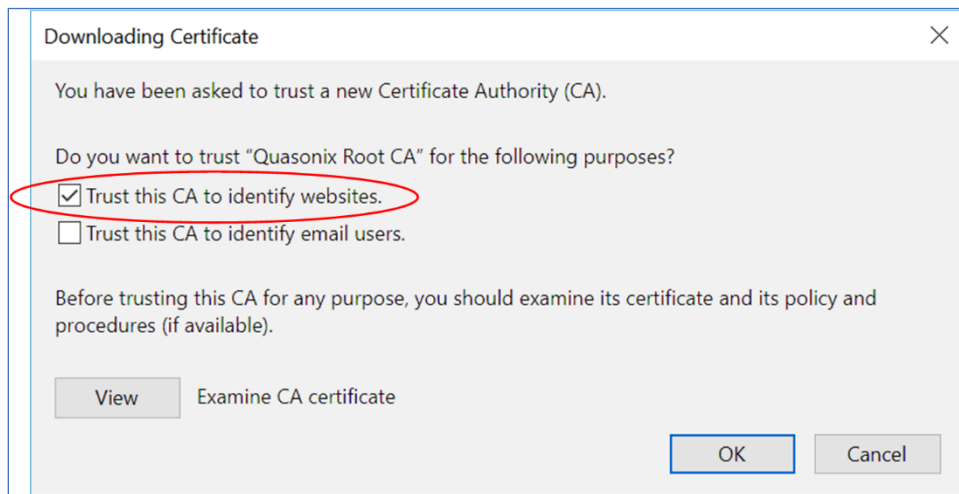

Figure 172: Firefox Downloading Certificate Window
- The Downloading Certificate window displays, as shown in Figure 172.